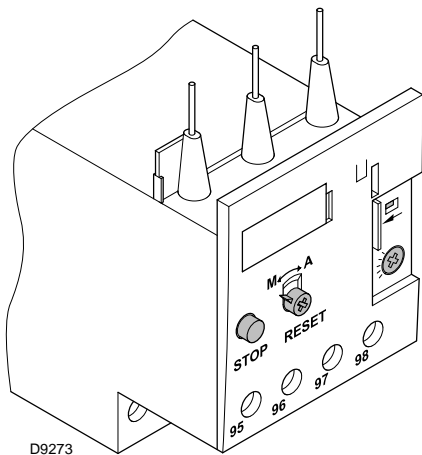

Fig. 18
The electro-mechanical thermal relay (Fig. 18) is used to avoid damage to the motor owing to a strong increase in absorption or the lack of a phase.
- To reset, in the case of an intervention of the thermal relay, press the button "RESET" (Fig. 18).
- The button "STOP" (Fig. 18) opens the NC (95-96) contact and stops the motor.